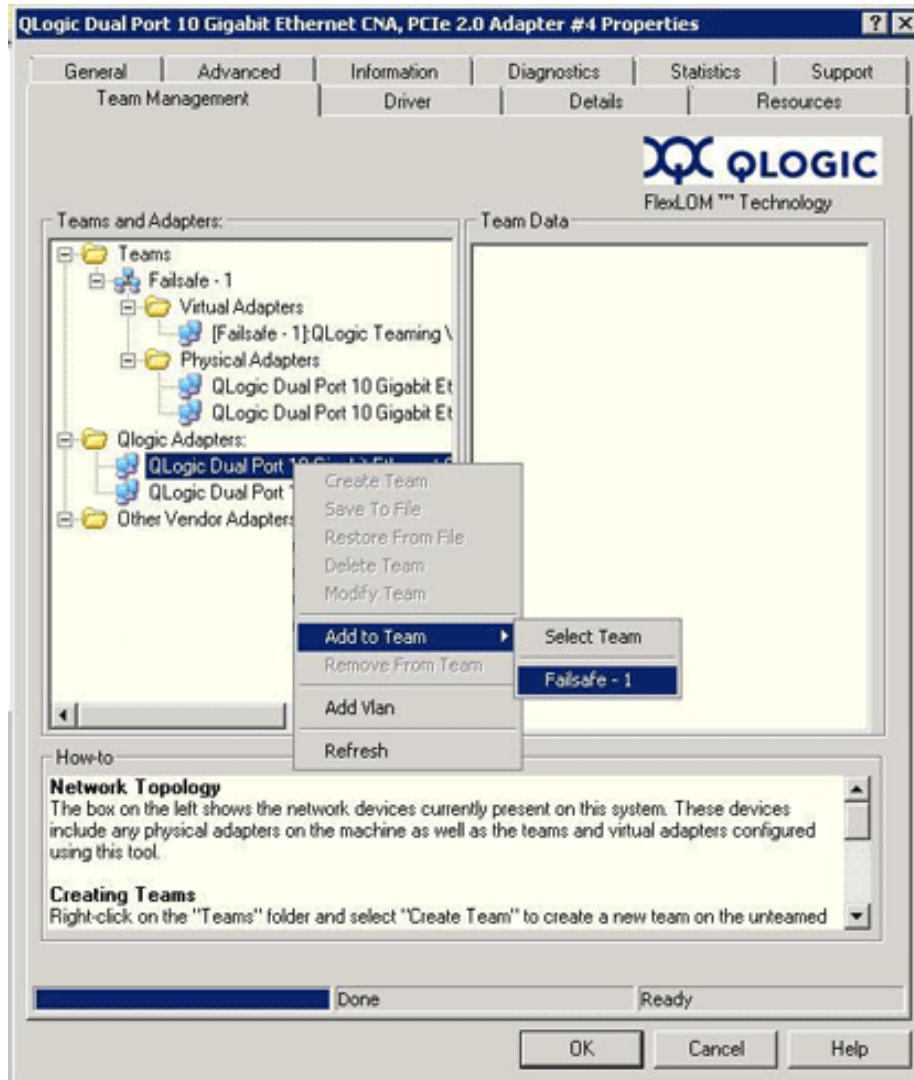

Figure 14: Adding a Team
2. On the shortcut menu, point to **Add to Team**, and then click the team to which you want to add the adapter (Figure 14).